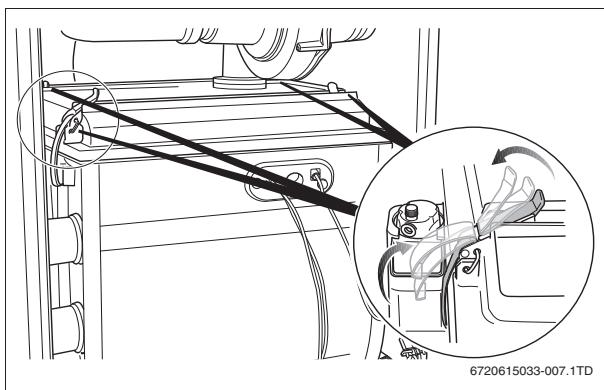

Fig. 6 Opening the retaining clips
- Loosen both retaining clips on the burner cover (→ fig. 6).